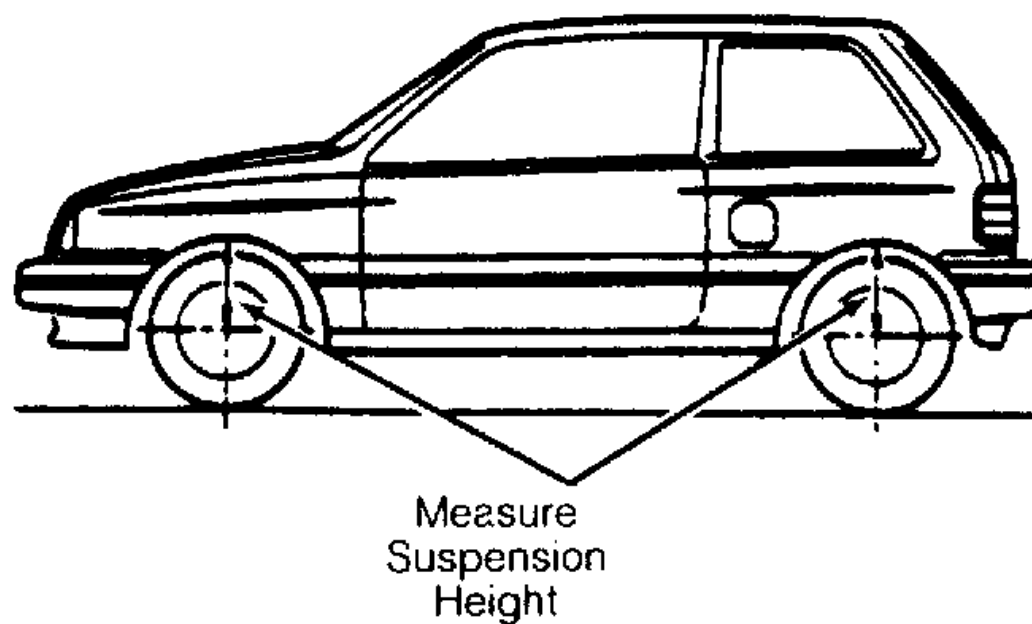

Fig. 1: Measuring Riding Height
3. Measure height of fender cutout rim above wheel center at all 4 wheels. Compare left and right side measurements at both front and rear. See Fig. 1. On Festiva, side-to-side variation should not exceed 0.4" (10 mm). These measurements should not be made from floor, but from center of wheel only, as unequal tire wear could cause a variance.